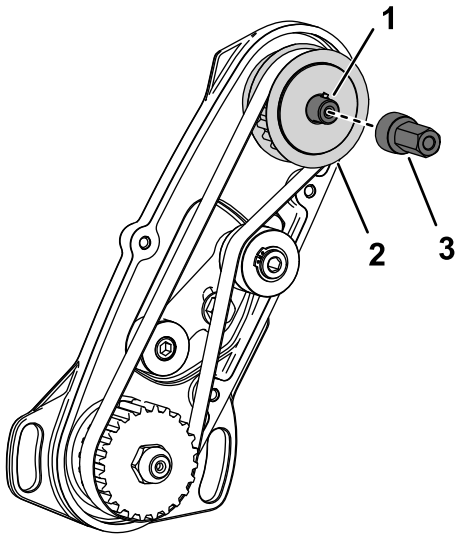

Figure 8
4. While securing the drive pulley from movement, install the drive hub to the reel-drive shaft (Figure 8).